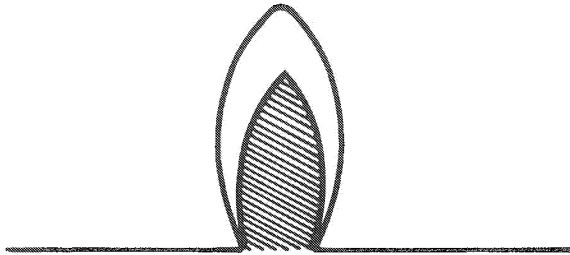

FIGURE 7-A
2. Air shutters on top burners are to be adjusted so that each cone of the flame is separate and distinct and appears as illustrated in Figure 7-A. Air shutters set too far open will cause flame to lift away from burner head and will be difficult to light. If air shutters are closed too much the flame will look hazy and the distinct cones will be missing.